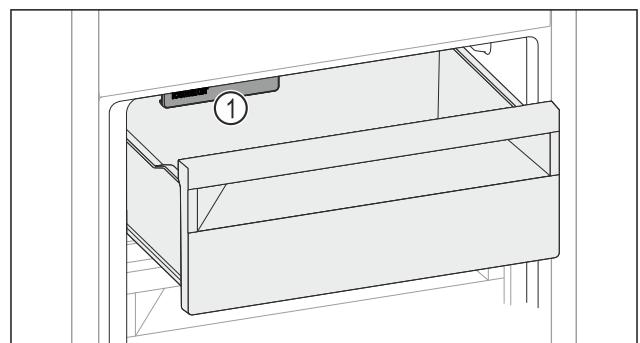

Fig. 49
- ▶ Watch out for the IceMaker Fig. 49 (1).